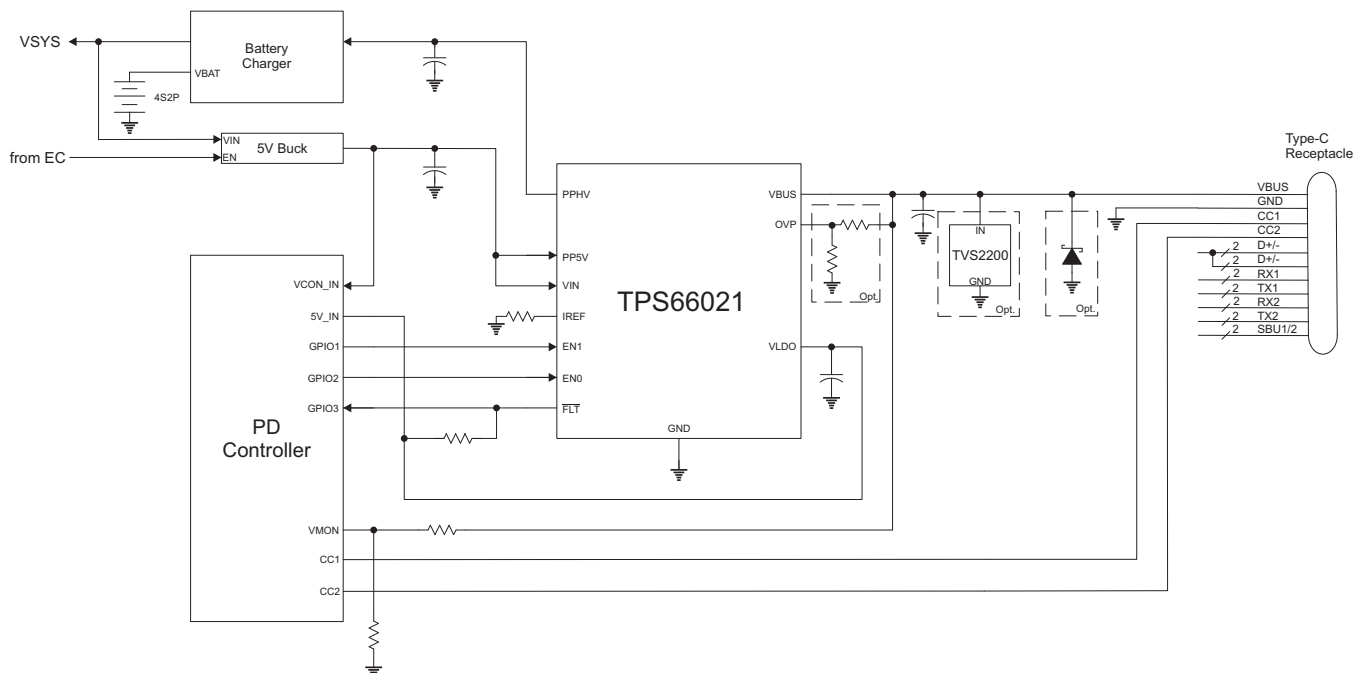
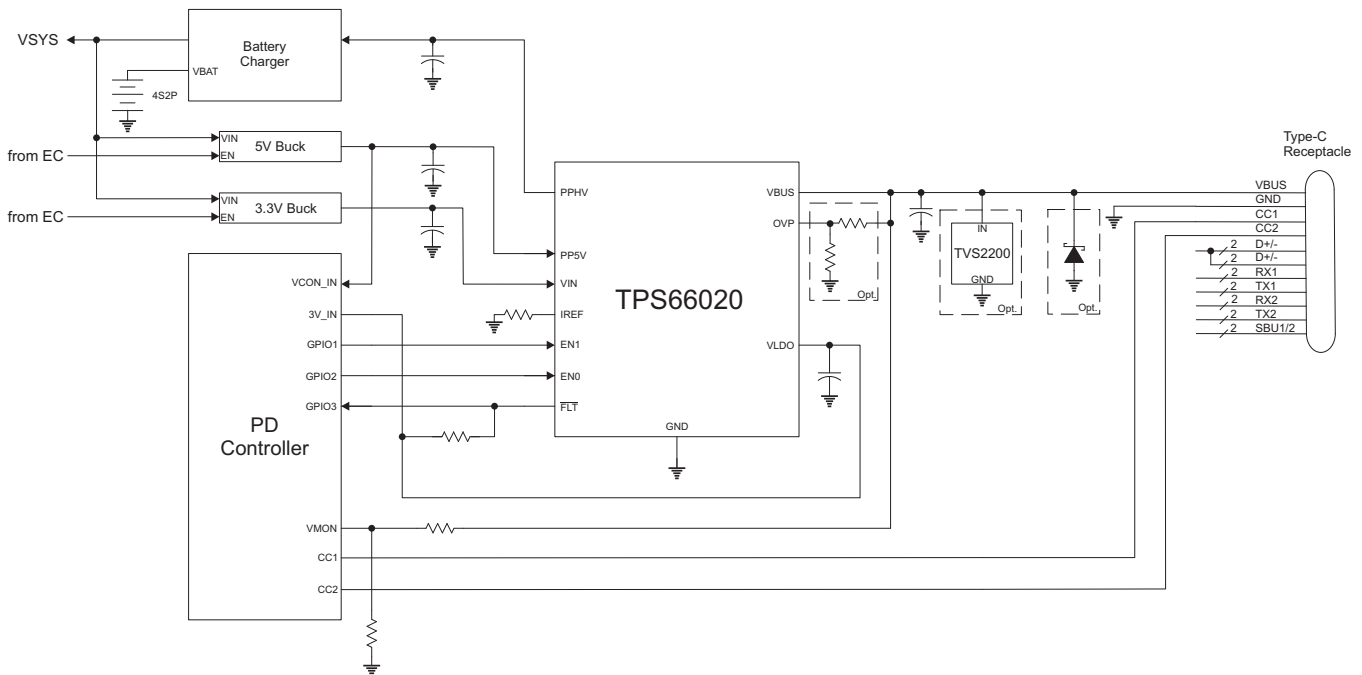

Figure 28. Single Port Type-C PD Port Using a Single 5-V Supply
Figure 29. Single Port Type-C PD Port Using a 3.3-V Supply
Figure 28 shows a USB Type-C single port design using a Power Delivery (PD) controller that supports 5-V operation. For this system, a single 5-V supply is used to supply power to the PP5V and VIN supplies of the TPS66021, as well as, the connector power, VCONN. The TPS66021 supplies power to the 5-V supply of the PD controller via its VLDO output which is sourced either from the integrated 5-V VBUS LDO for dead battery condition or from VIN once the dead battery condition ends.
Similarly, **Figure 29** shows a USB Type-C single port design using a PD controller that only supports 3.3-V operation. In this case, a separate 3.3-V supply in the system is used to supply power to the TPS66020. The TPS66020 supplies power to the 3.3-V supply of the PD controller via its VLDO output which is sourced either from the integrated 3.3-V VBUS LDO for dead battery operation or from VIN once the dead battery condition ends.
The PPHV power path is a Sink. The capacitance on the PPHV shown in Figure 29 represents capacitance of the charger sub-system. In a typical application, this capacitance can be in the range of 47 μ F up to 100 μ F, far exceeding the 1- μ F minimum specification for the TPS6602x, so no external capacitance is required to meet this requirement in most cases. As per the PD Specification, the total capacitance on VBUS should be maximum 10 μ F at connection.
The TPS6602x integrates a high-voltage VBUS LDO that can be used to supply power to a PD Controller and other supporting circuitry when only VBUS power is available, such as in a dead battery condition. As shown in Figure 29, the TPS66020 VLDO output supplies power to the PD Controller's 3V_IN supply. Similarly, Figure 28 shows the TPS66021 VLDO output supplies power to the PD Controller's 5V_IN supply. During a dead battery condition, the PD Controller presents its Type-C RPD pull-downs on the CC1 and CC2 lines. Upon connection to a Type-C/PD Source, 5 V is provided to VBUS from the Source partner which powers the TPS6602x. The VBUS LDO is enabled and provides power to the PD Controller. Once powered, the PD Controller can decide to enable the TPS6602x PPHV Sink path by asserting EN0 high and use the 5-V VBUS to charge the battery or it may choose to negotiate a higher voltage contract first. Either way, once the contract is negotiated, the PD Controller will enable the PPHV Sink path and charge the system. Once the system is sufficiently charged, the VIN terminal will rise and will exceed the VIN UVLO threshold. If VIN remains above the UVLO threshold for t_{VIN_STABLE} , VLDO will be supplied from VIN and the VBUS LDO will be disabled.